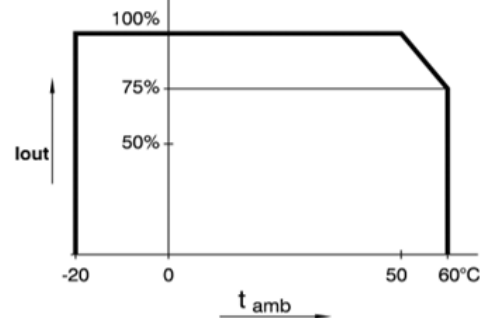

Figure 6.7: Operating temperature ranges. Note the current derating is the same for either sink or source mode.
- Two low noise blowers cool the unit. The speed of the fans depends on the temperature of the internal heatsinks, see Figure 6.7. Normally, at 50 °C ambient temperature and full load the fans will not work at full speed.